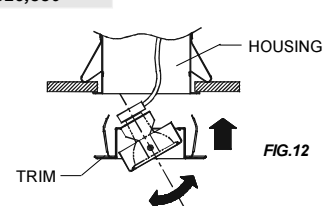

FIG.12
- Aim the lamp beam at the desired angle if necessary. (Fig.12)
- Gently rotate the trim to fit it to the ceiling. (Fig.12)
- Push the trim into the housing. (Fig.12)